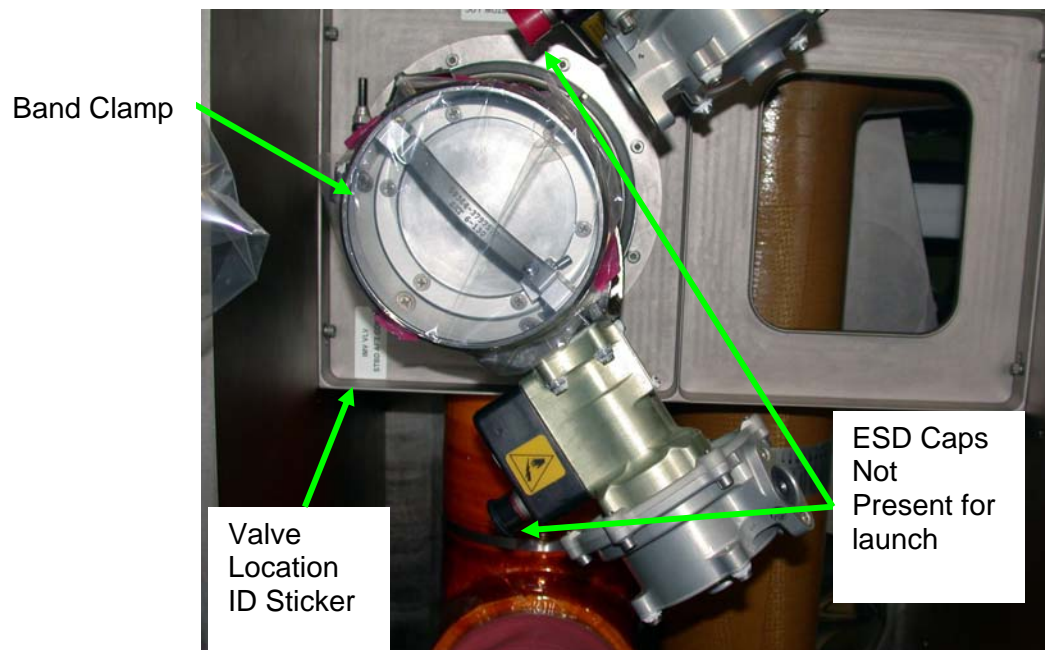

Figure 10.- IMV Valve Starboard Aft Cone Stowed Location (NOD2S3-01).
- 6.4 Remove IMV Valve and V-Band Clamp from stowed location NOD2S3-01 (Ratchet, 1/4" Drive, 7/16" Deep Socket, 1/4" Drive or 1/2" Deep Socket, 1/4" Drive). Refer to Table 1. Refer to Figure 10.